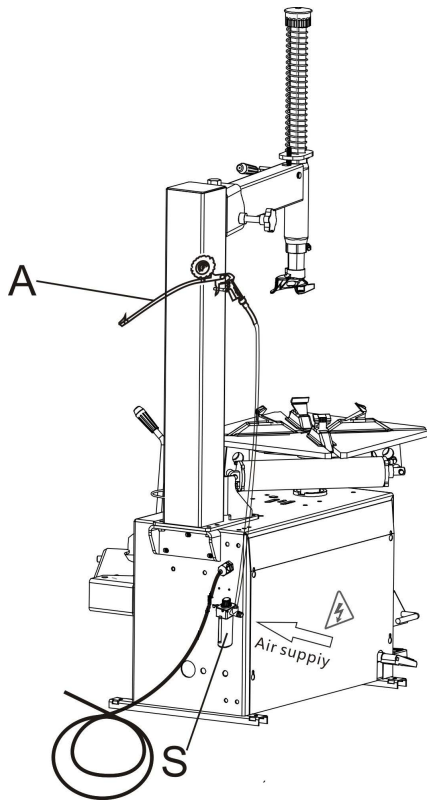

Fig.8
- Air system connection: Connect the inflation gun A to the coupling located to the up of the air filter S; put inflating gun to the hook, on the column(as Fig.8) ; Connect the compressed air supply to the coupling located between the lubricator and the air filter ( as Fig.8).